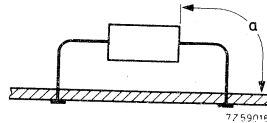

Fig. 3 Mounted on a printed-circuit board.
3. Thermal resistance from junction to ambient when mounted on a printed-circuit board at any lead length  $a$ ; Fig. 3